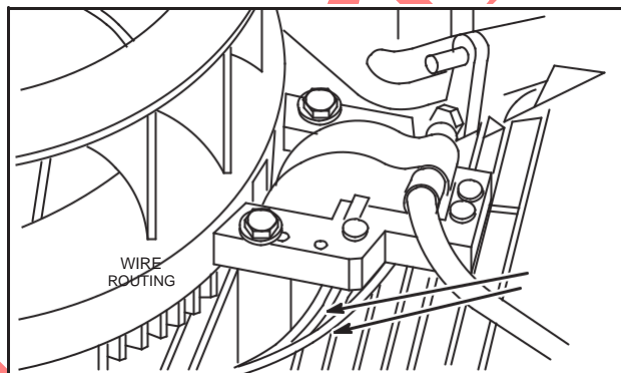

Fig. 2 – Installing Armature
3. Assemble armature to engine, Fig. 2.